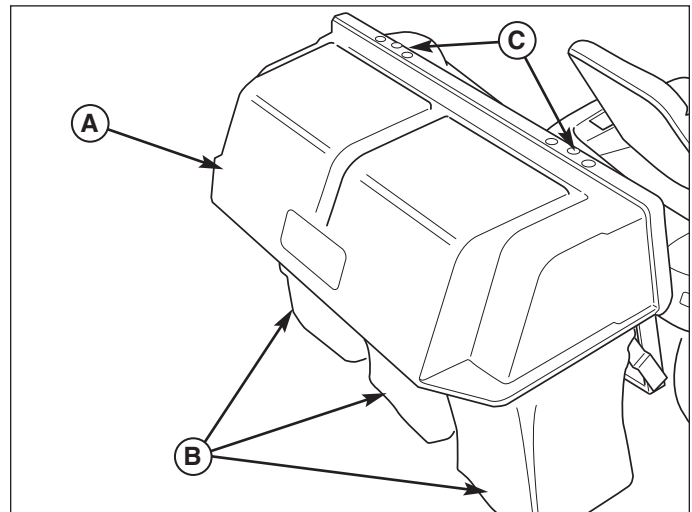

Figure 13. Install Cover
2. See Figure 13. Set the cover (A) on top of the bags (B) and align the hinges (C).